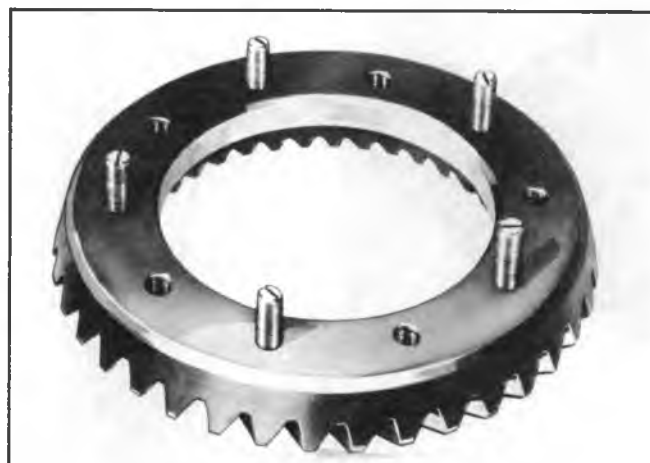

Fig. 4B-Ring Gear Guide Pins Installed
2. Install guide pins, made from 3/8"-24 x 1-1/2" long cap screws with heads cut off and ends slotted, to ring gear as shown in Figure 4B.